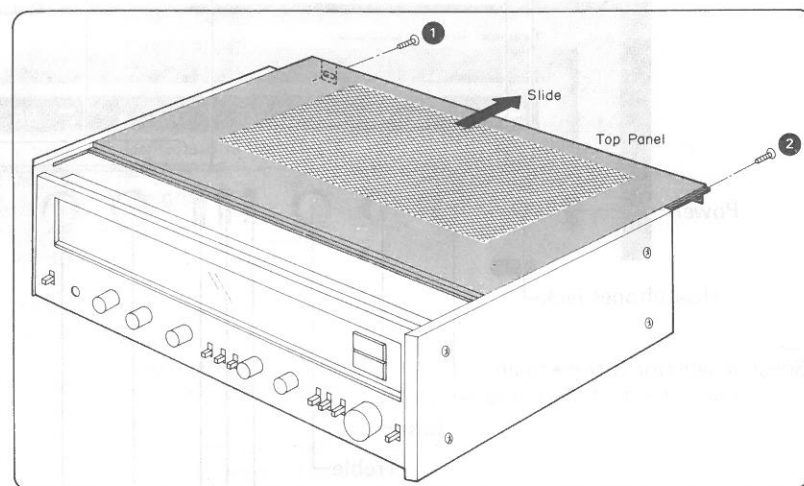

Fig. 1
1. Remove the 2 setscrews (Fig. 1 : ①, ②) of the top panel.
2. Slide the top panel in the direction of the arrow in Fig. 1 to detach it from the set.